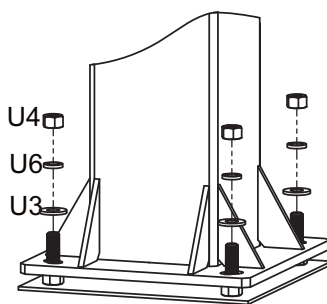
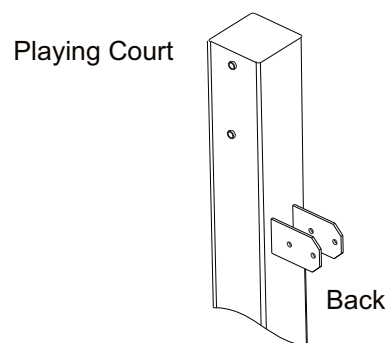

FIGURE 1B
FIGURE 1C
- B. Remove the Padding from Main Post (A). Place the Main Post (A) over the J-Bolts. Slide a 18mm Thick Washer (U3), a Lock washer 18mm (U6) and thread a 18mm Hex Nut (U4) to each J-bolt. Tighten the Nuts only a few turns onto the J-Bolts as shown in FIGURE 1B.
- C. If the Main Post (A) is not exactly vertical, adjust the 18mm J-Bolt Hex Nuts (U4) located under the Post base. Tighten all of the Hex Nuts (U4) Above Post base when Main Post (A) is vertical.
NOTE: Face the Main Post (A) with Actuator Bracket facing away from playing court (as shown in FIGURE 1C).